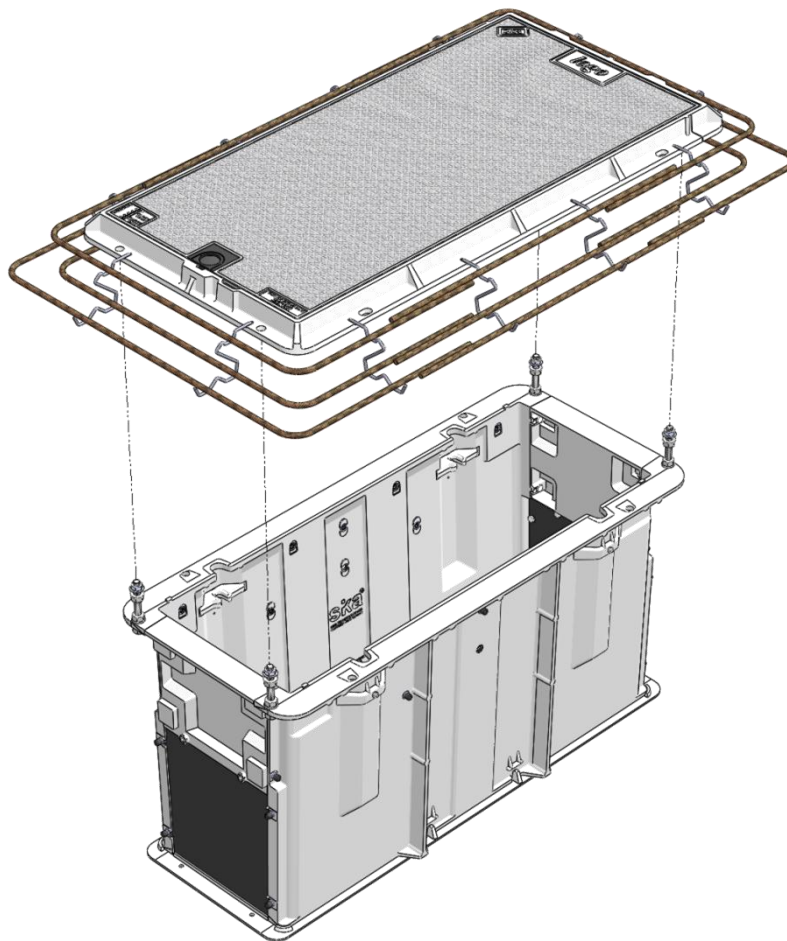

Fig 1
2. Bolt the cover set frame down using the adjustable M16 S/S threaded rods supplied. Ref Fig 1.